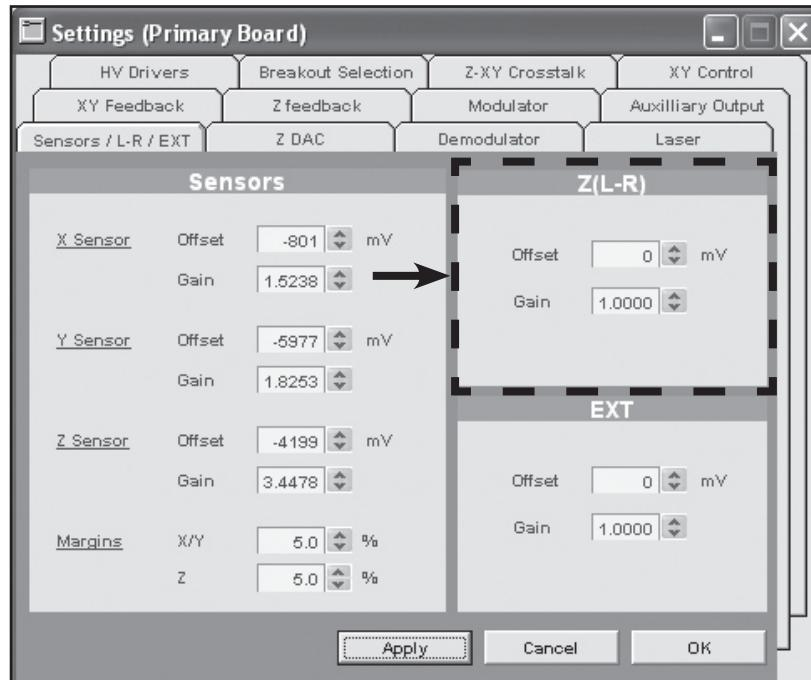

Figure 6.2: Sensors/Z(L-R)/EXT Settings
2. The Lateral force channel is the default setting for the 4th channel in standard configuration. If you want to change gain or offset parameters, use the Settings (Primary Board) Window (Figure 6.2). Default settings are for gain=1, for offset=0mV.